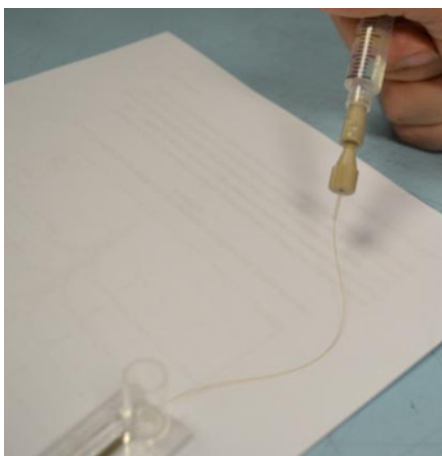

Figure 10-3: Syringe connected to cartridge.
15. Gently depress the plunger to apply the pressure needed to push the air into the cartridge (Figure 10-3). Droplets will exit the cartridge outlet capillary. Continue to apply pressure until the water stops exiting the capillary. Refill the syringe with air if necessary.